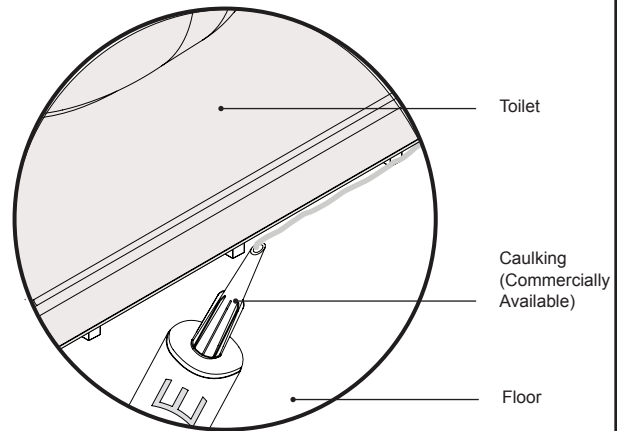

Figure 14
- 5 Seal the space between the floor and the toilet using silicone caulking. Let cure for 24 hours before using the toilet (Figure 14).